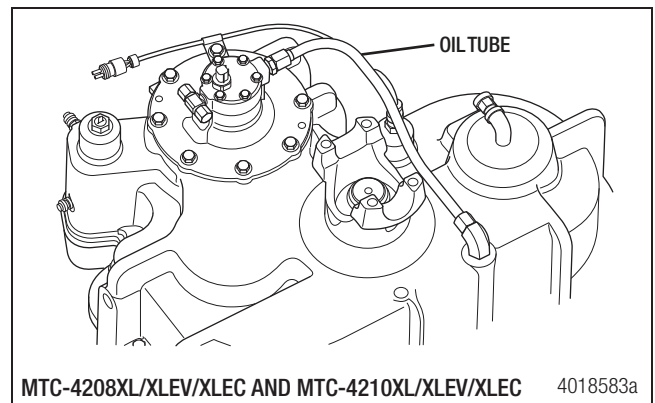

Figure 7.48
- Install the oil inlet tube to the lower and upper fittings. Tighten the fitting nuts to 35-40 lb-ft (48-54 Nm). Figure 7.48.